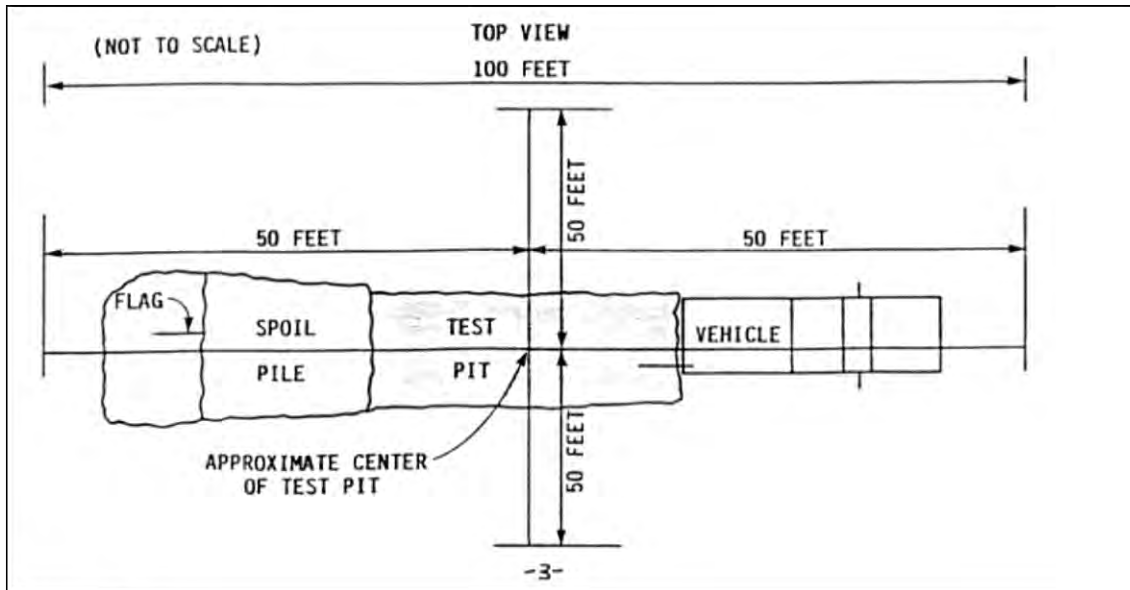

Figure B-1
**Orientation of Test Pits.** The technician is responsible for selecting a test pit location. Of paramount concern is the technician's safety. The test pit will be located behind the established pattern of grading equipment and outside any existing patterns. The orientation of the pit will accommodate the use of the technician's vehicle as a barrier to potential oncoming traffic. The waste pile created from the excavation of the test pit will be opposite the vehicle so that the test pit is positioned between the vehicle and the waste pile. A flag will be placed immediately on top of the waste (spoil) pile, satisfying the same requirements as the vehicle flag (see Figures B-1 and B-2).
**Zone of Non-Encroachment.** The location of the test pit must be selected so that no earthmoving equipment will approach closer than 50 feet from the center of the test pit (see Figure B-1). This is not only for the technician's safety, but to ensure the integrity of the test. Excessive vibration from earthmoving equipment operating too closely may impair the accuracy or spoil the test results.